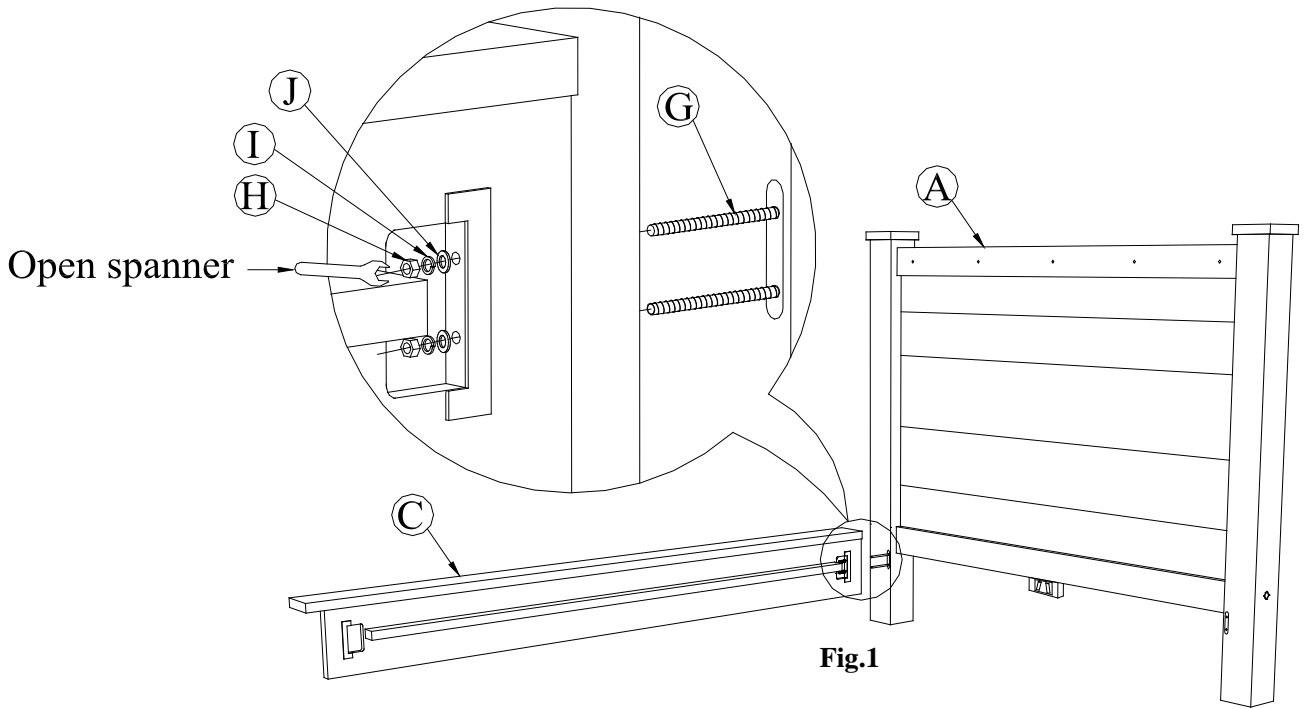

Fig.1
1. Carefully lay headboard (A) and side rail (B) on a carpet or scratch-free surface.
2. Turn bolts (G) into the threaded holes on metal plate of headboard (A). Align the bolts with the holes on end of side rail (C), let the bolts pass through the holes of side rail, followed with bigger flat washer (J), bigger spring washer (I), nut (H), tighten by open spanner provided. Repeat for another side rail (C). **Fig. 1**